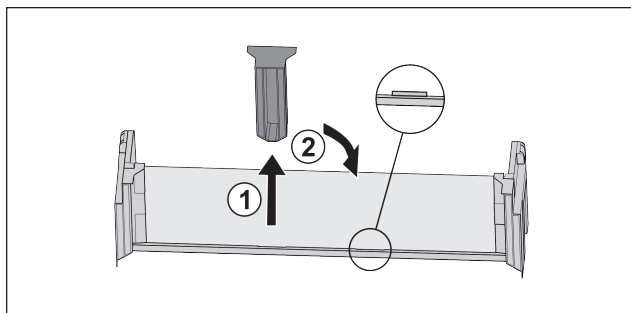

Fig. 26
- Pull off the middle holder Fig. 26 (1).
- Insert the middle holder in the second position Fig. 26 (2).